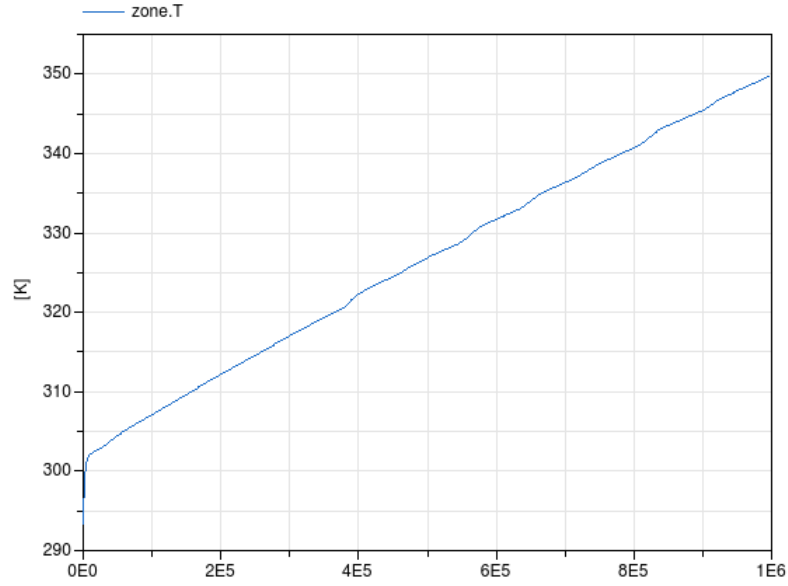

Figure 4: Air temperature in K as function of time in seconds
**Reference result** The result of the `air` temperature is plotted in Figure 4. The temperature rises very steeply since the wall is relatively well insulated ( $k = 0.04 \text{ W/(m K)}$ ) and the heater is not disabled when it becomes too warm.